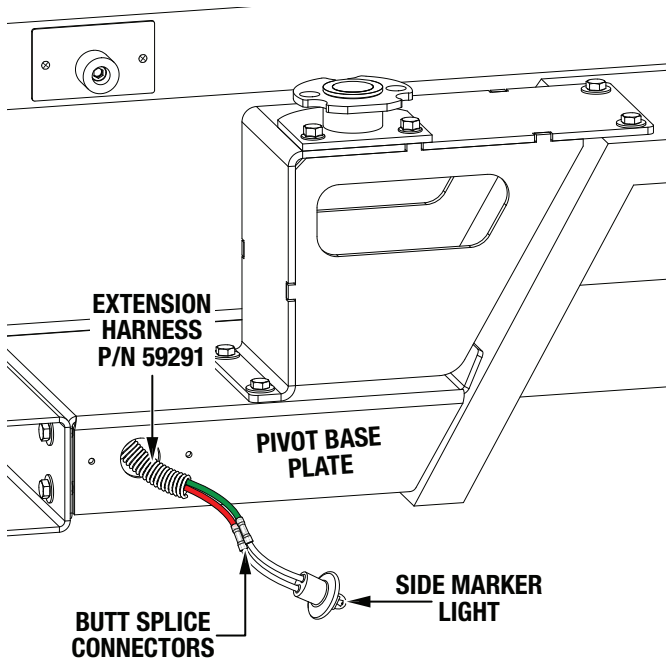

Figure 21. Side Marker Wiring Connection
- From inside the frame, insert the spliced wiring extension harness (P/N 59291) through the newly drilled 3/4-inch hole in the frame so that it extends out of the pivot base plate hole as shown in Figure 21.
- Insert the stripped end of one of the side marker wires into one of the extension harness butt splice connectors (Figure 21) and crimp.
- Insert the stripped end of the remaining side marker wire into the remaining extension harness butt splice connector (Figure 21) and crimp.